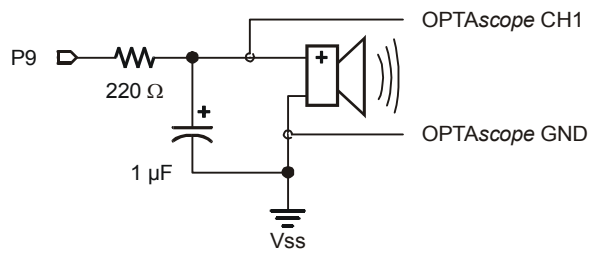
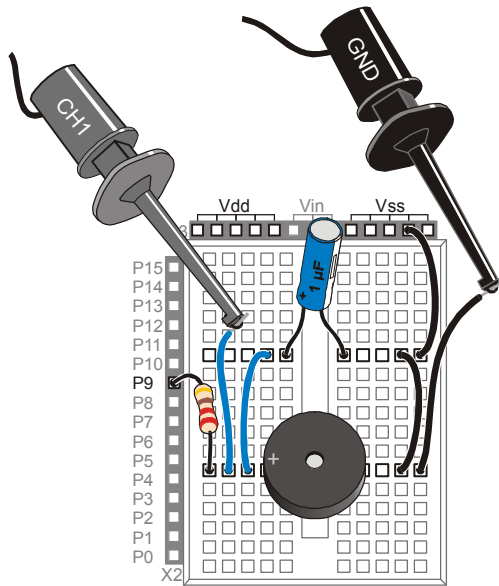

Figure 3-3:
Figure 3-4:
- ✓ Build the circuit as defined by the schematic in Figure 3-3. A wiring diagram of the circuit is shown in Figure 3-4. If using the HomeWork Board, omit the 220 Ω resistor as one is already built in; replace with a jumper wire to make the necessary connection.
Remedy: If you do not have a true piezoelectric speaker at your disposal, you can still view the signal by removing the speaker from the circuit shown in Figure 3-3 and Figure 3-4. When you re-run the program and capture the signal, it should more closely resemble the piezo speaker signal example.